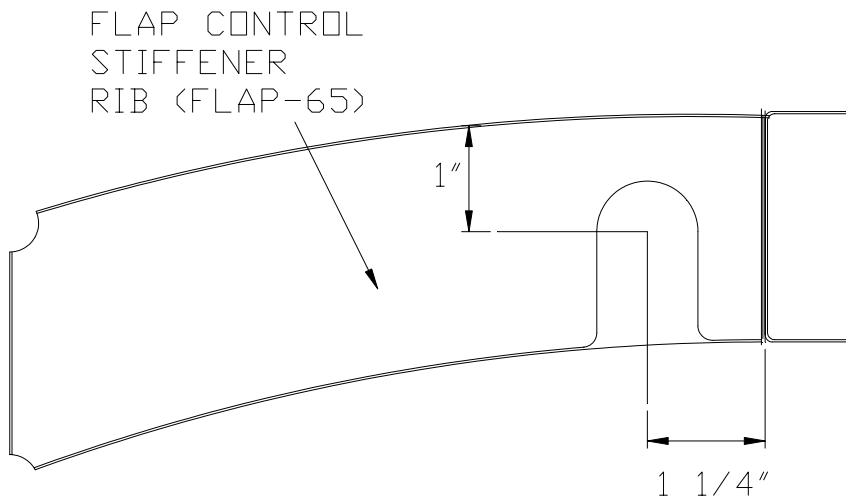

Figure 15.13.3
- 11) Using the Interior Delrin Pivot Block (FLAP-11) locate the area that will need to be cut out to clear the Flap Handle Torque Tube. Figure 15.13.3.